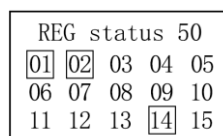

Fig. 19 Automatic registration interface
- 2) **Automatic registration:** In the Standby mode, press Registration, enter the Automatic Registration interface after entering the correct password, as shown in Fig. 19. The host will automatically conduct routing inspection from 1 to 99 and register online extensions. After registration, it will automatically return to Standby mode, and the registration result can be viewed in the Registration Setting and Registration Status.